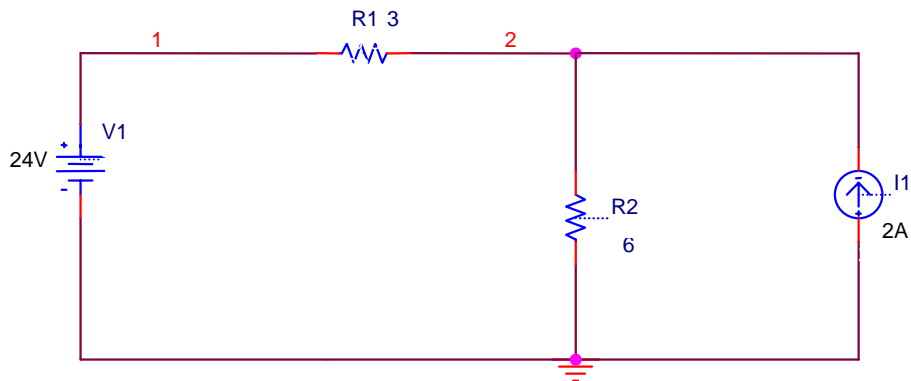

Figure 1.2 Circuit 1 after simulation with currents, voltages, and power shown.
- 6) The voltages and currents in the circuit may be displayed on the schematic by clicking on the big “V” and big “I” in the top tool bar. There is also a “W” which will also show the power in watts. The currents and voltages may be verified against the hand calculations. Figure 1.2 shows the circuit after simulation with the voltages, currents, and power displayed. It is easily seen that power absorbed = power delivered. Also Kirchhoff's current law at node 2 it is easily verified.